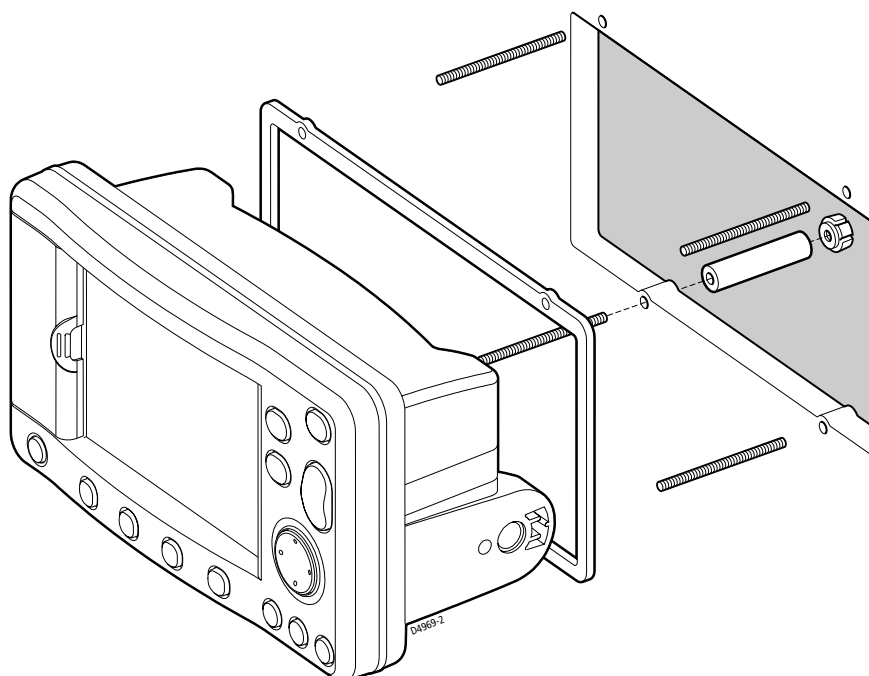

Figure 5-5: Panel Mounting
- Referring to *Figure 5-5*, panel mount the unit as follows: